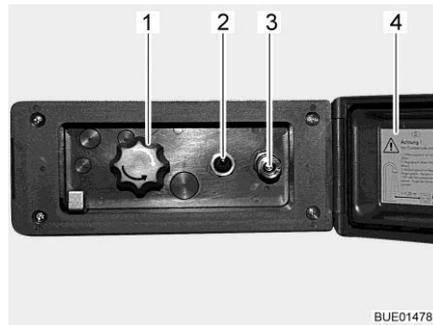

Fig. 86 External shower connection point
- Unlock and open the cover (Fig. 86,4).
- Attach hose of the external shower to the quick closure (Fig. 86,3).
- Switch on the water pump using the switch (Fig. 86,2).
- Adjust the water temperature with the rotary knob (Fig. 86,1) as desired.
- Switch off the water pump using the switch (Fig. 86,2).
- Close the cover (Fig. 86,4) and lock with key.
- Turn knob (Fig. 86,1) to the central position.